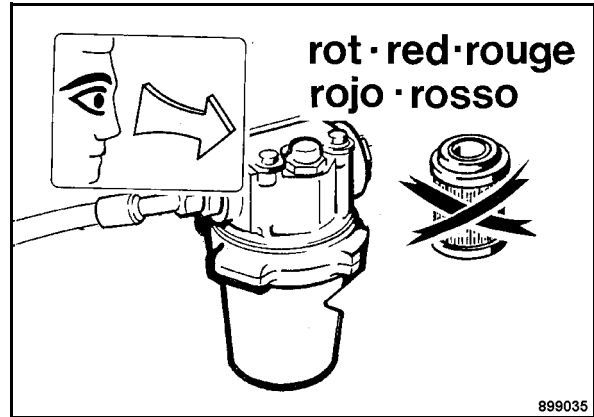

Fig. 62
- If the optical display (Fig. 62) shows red, the hydraulic oil filter element must be changed.